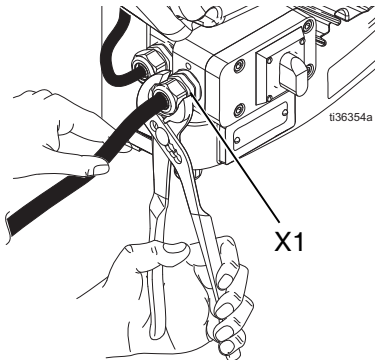

FIG. 4: Junction Box Screws and Strain Relief Cord Grip
7. Replace junction box screws and washers removed in step 2 and tighten cord grip (X1) to securely hold power cord in junction box (Y). See FIG. 4.